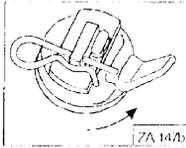
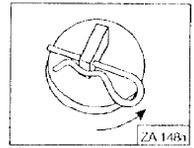

Fig. 1
Fig. 2
8. Two counter-rotating stirrer heads (**Fig.1**) are fitted in the bottom of the double hopper which provide an even flow of the fertiliser onto the spreading disks. For some spreading materials e.g. Urea or green manure seeds the stirrer heads should be removed but the „R-“ pins should be re-inserted with the bows facing the sense of spinning (**Fig.2**) [refer to hints in the setting chart !].